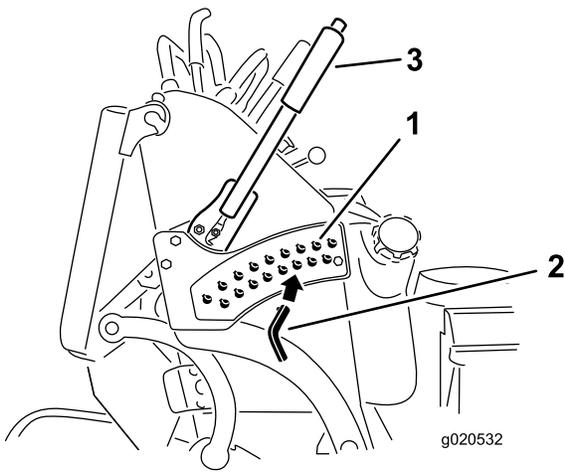

Figure 28
3. Select a hole in the height-of-cut bracket corresponding to the height-of-cut desired and insert the pin (Figure 28).
4. Push the button on top and lower the height-of-cut lever to the pin (Figure 28).